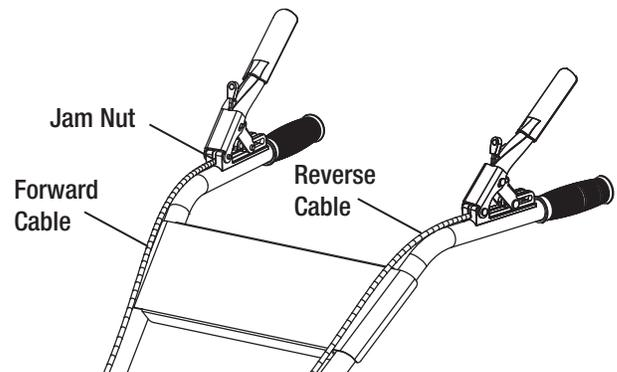

Figure 1-13
- This procedure can be repeated until conduit adjustment bolts are fully adjusted. If no more adjustment can be made, the belt may have to be replaced. See Figure 1-13
- Remove spark plug wire and secure from spark plug. See Figure 1-13
See Figure 1-13